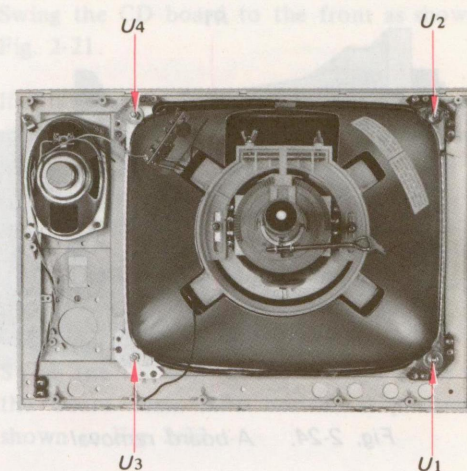

Fig. 2-29. Picture-tube removal, Step 16
16. Remove the four nuts labeled U1-4 in Fig. 2-29.
1. Place the shield cover on the new picture tube and then insert the tube into the front panel. (See Fig. 2-29 and Fig. 2-31.)
2. Tighten the four nuts shown in Fig. 2-29.